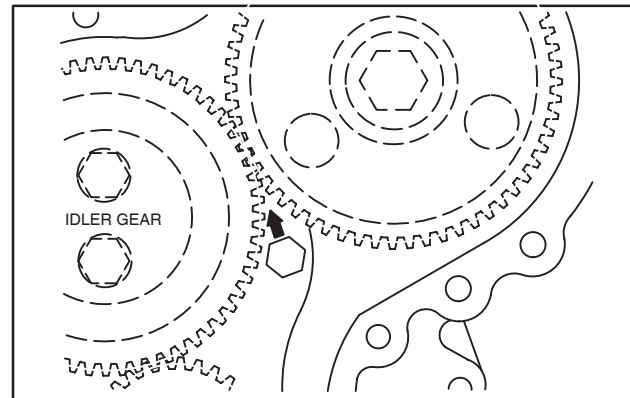

Fig. 12 – Installing Oil Nozzle
3. When re-installing oil nozzle, oil hole must be positioned at $45^{\circ} \pm$ angle, pointing towards idler gear, Fig. 12.